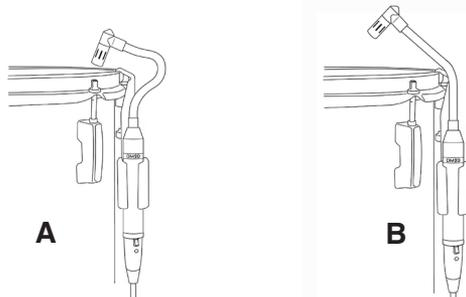

*Figures 10-A and 10-B Miking the Top or Top & Bottom of a Snare*
The DM20 has been optimized for miking toms and snare. With its frequency response of 50Hz to 20kHz it will provide a full and fat sound from your toms and a nice crisp sound from your snare. If you feel that there is too much low frequency response when miking a snare, use either a high-pass filter set somewhere between 60Hz and 100Hz or a low frequency equalizer (EQ) to attenuate (i.e. cut) a few dB in the area of 60Hz to 100Hz for the desired results. The DM20 can be used to mic either the top drumhead, bottom drumhead or both. Figure 10-A shows the DM20 placed over the top drumhead of a snare while Figure 10-B shows a snare drum with both the top and bottom heads miked.
The extended low frequency response of the DM20 DrumMic™ will provide a rich and full tom sound. You can mike either the top and/or bottom head of a tom with the DM20 in a similar configuration as on snare as shown above in Figure 10-B. You will notice in Figure 11-A that the microphone head is placed closer to the drum rim, while in Figure 11-B the microphone head is aimed toward the center of the drum head by changing the position of the gooseneck. Experiment with the mic head placement as the sound or tone can change with the mic head in various positions.